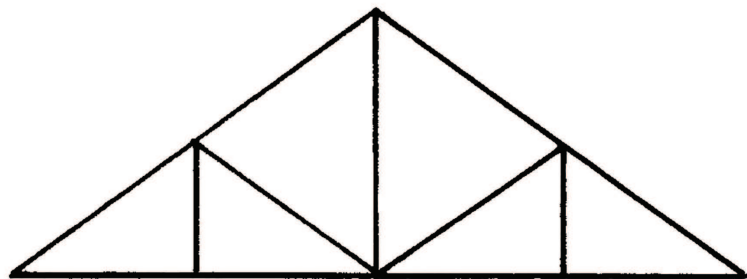

Figure 22
4. On Figure 22, label members under compression with a “C” and members under tension with a “T”. Do this for all the members except for the rafters.